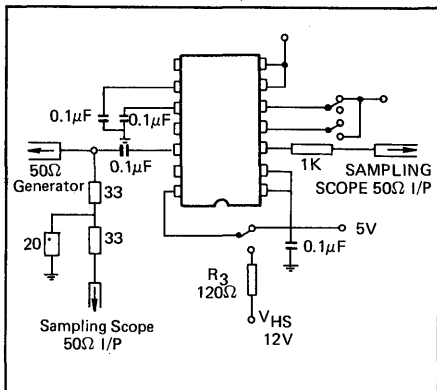

Fig. 5 - Test Circuit
reference inputs. This can be carried out externally as shown in figure 5 and can be measured as $V_{ref1} - V_{ref2}$. Care must be taken when applying hysteresis as large values of hysteresis will degrade the input sensitivity at maximum frequency. A maximum value of 50mV ($R_1 = 32K\Omega$) should not be exceeded.